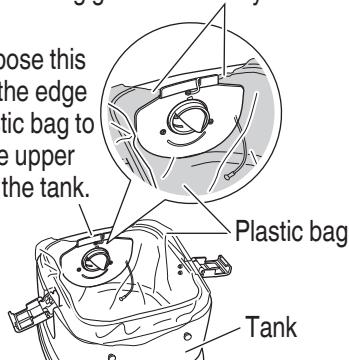

Fig. 13
Insert the bag first along the bottom of the bag guide and then on both sides. (see Fig. 13)
- The edge of the plastic bag on the air intake should not extend out of the top of the tank. (see Fig. 13)